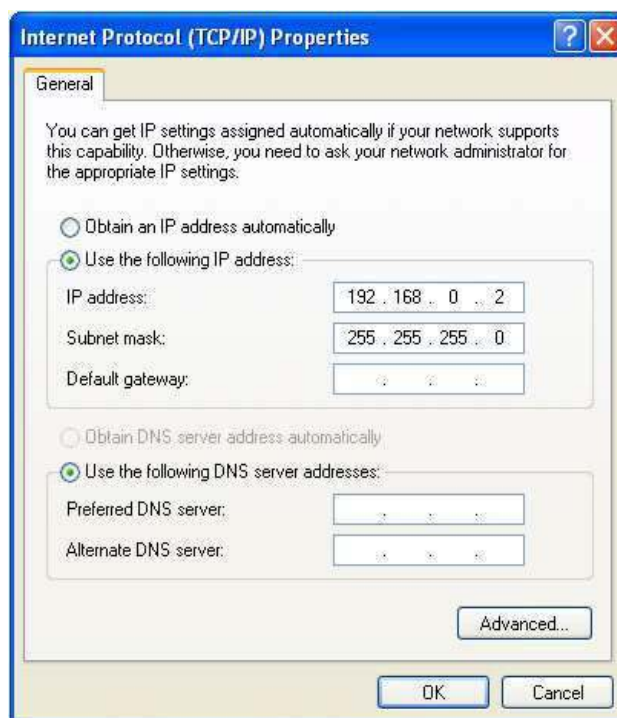

Figure A.2 – TCP/IP properties window in Windows OS
- 3) Select "Internet Protocol (TCP/IP)" from the list of connection components in the next window. Make sure that the component is enabled (flagged in the list) . Click "Properties". The TCP/IP properties window opens (see Fig. A.2).